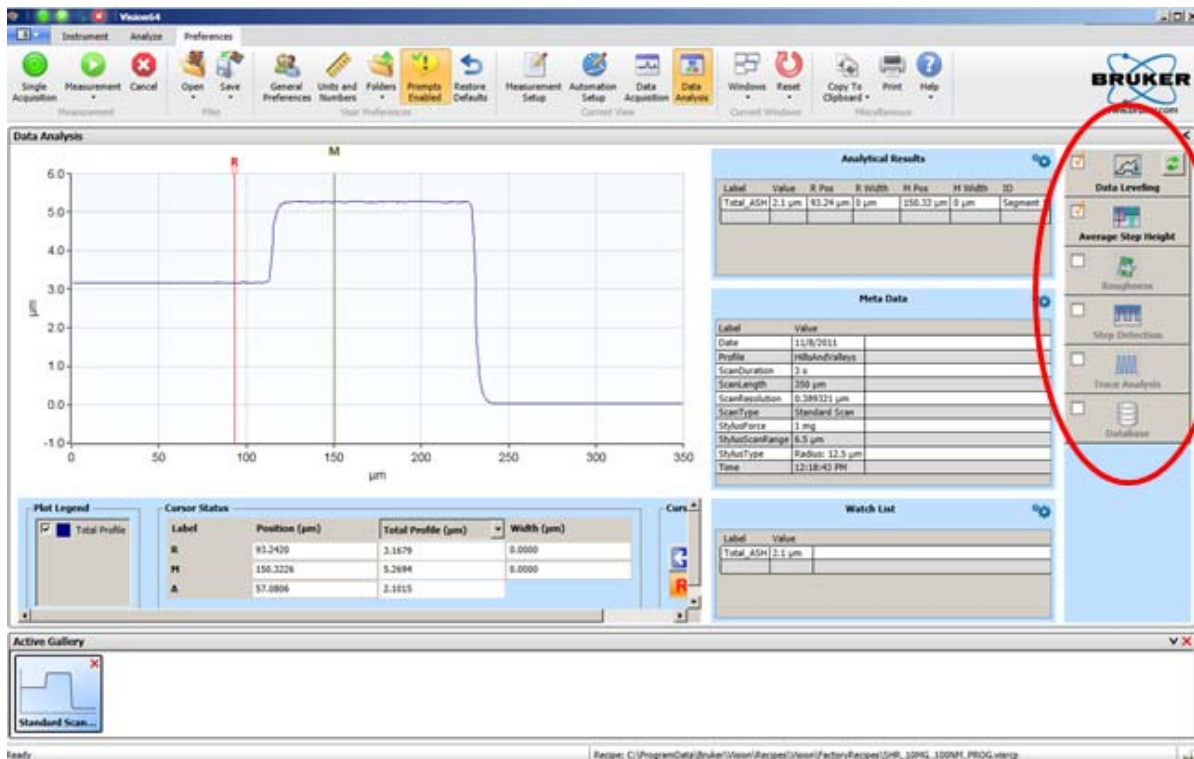

Figure 6-14: Scan Data with Quick Analyzer Displayed in the Upper Right Corner of the Screen
- Take a new manual or automated scan measurement as described in Chapter 4. After the scan is complete, the Quick Analyzer appears in the upper right corner of the screen (see Figure 6-14). For instructions on analyzing scan data using the Quick Analyzer, see Chapter 4.